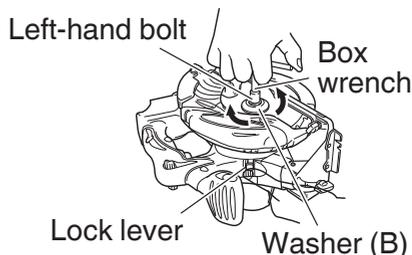
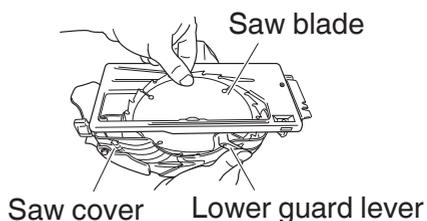

Fig. 24
Fig. 25
- (1) Set the cutting volume at maximum, and place the Circular Saw as shown in Fig. 24.
- (2) Depress the lock lever, lock the spindle, and remove the left-hand bolt and washer (B) with the box wrench.
- (3) While holding the lower guard lever to keep the lower guard fully retracted into the saw cover, remove the saw blade (Fig. 25).